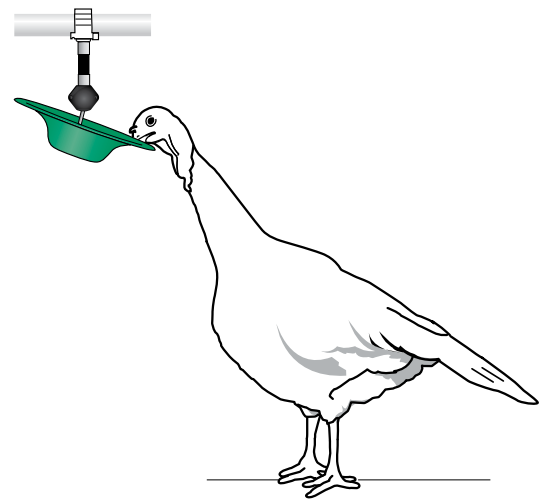

Figure 6
During the drinking process, it is important that the turkeys push down on the edge of the T-Max drinker with their necks. Maintain a drinker line height that forces the turkeys to stretch their necks up and over the T-Max drinker edge when drinking. See Figure 6 on the front side.
- Please note that the Drinker Height chart (Figure 1 on the front side) is the MINIMUM drinker height based on bird age. It is highly recommended to adjust drinker line height as high as possible to achieve and maintain Proper Drinker Activation. See Figure 6 on the front side.